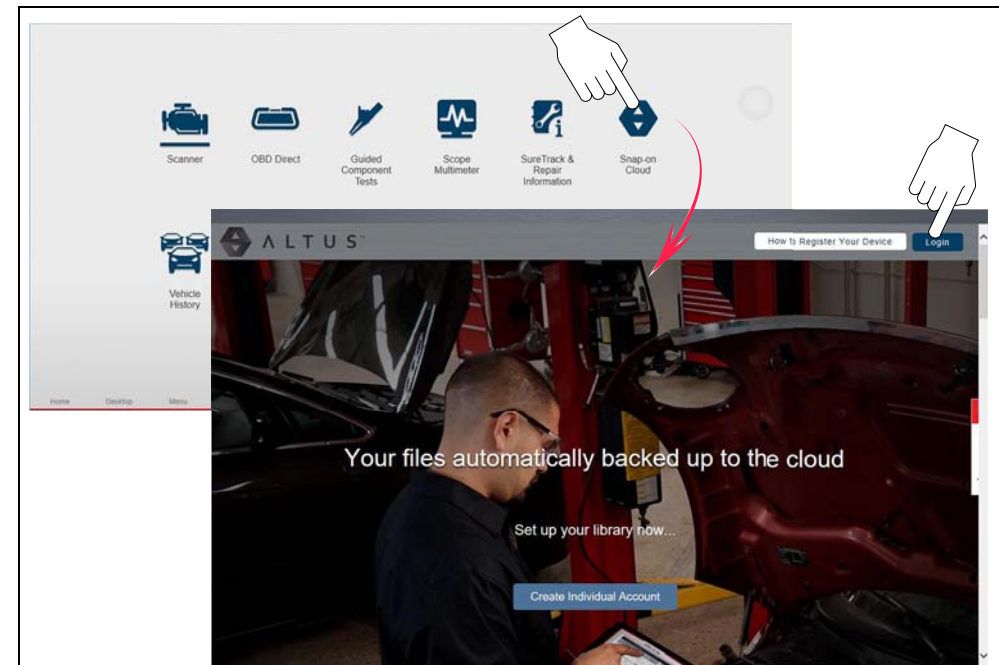

Figure 17-4
1. From the Home screen select the **Snap-on Cloud** icon (Figure 17-4). If using your mobile device or PC visit ALTUSDRIVE.com.
2. Select the **Login** icon (Figure 17-4).